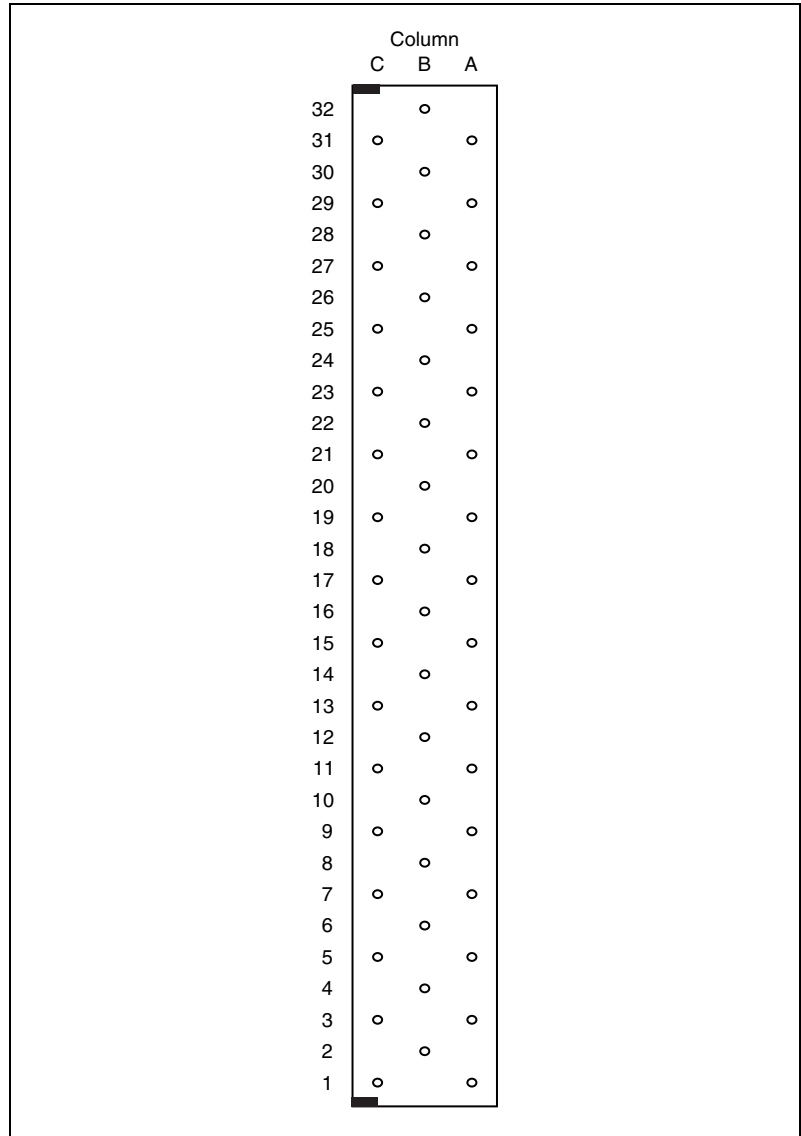

Figure 1. SCXI-1322 96-Pin DIN Connector
- a. Hold the SCXI-1322 vertically and view it from the rear. The terminals on the 96-pin DIN connector are illustrated in Figure 1.